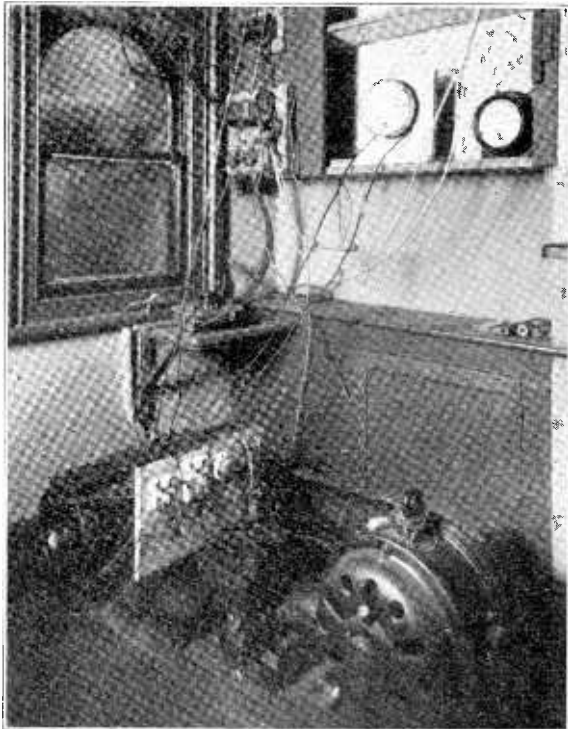
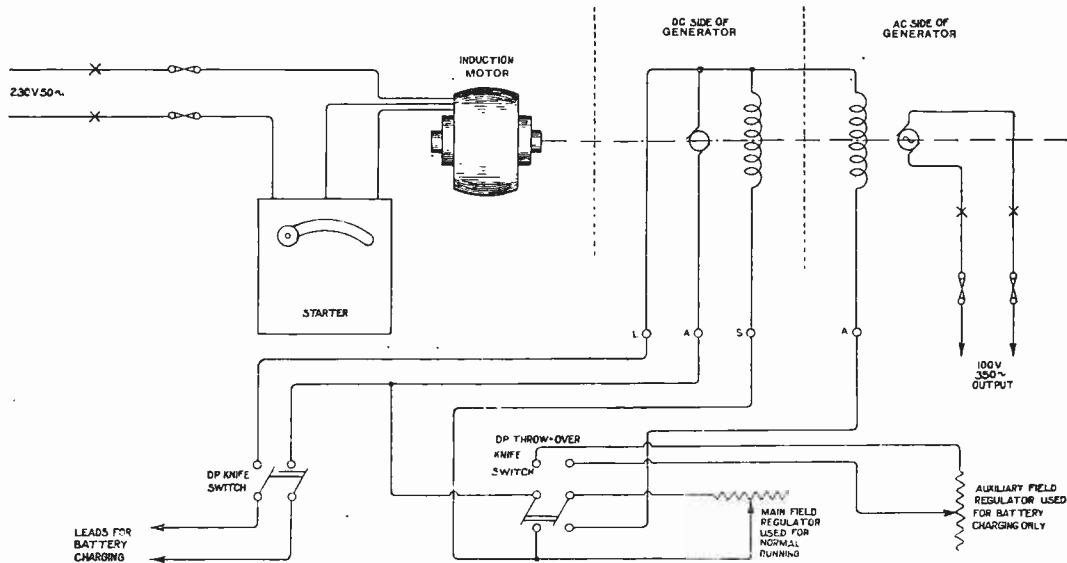

Fig. 2. The generator unit with driving motor.
Fig. 3. Connections of generator unit.
Fig. 3. The diagram shows the connections of a receiver which has one H.F. amplifying valve, crystal rectifier, and one note magnifier. The anode circuit of the first valve contains a coil which is tuned with a condenser to the wavelength of the signal. Good amplification is obtainable with a receiver wired to this diagram, and its simplicity should appeal to those who have but recently taken an interest in reception. The circuit is ideal for the reception of broadcast transmissions and its range would be of the order of 80 miles.
(1) and (2) A suitable diagram is given in Fig. 3. Suitable values are indicated. (3) You should certainly hear broadcast transmissions and any other stations which are transmitting with sufficient power.
Having arranged the aerial and the earth connections, the next consideration was the source of the power supply. The Power Company connected us on a pair of leads to their "station auxiliaries" switchboard at about 230 volts, 50 cycles alternating, and we used a 3 H.P. induction motor run off that supply to drive the generator used for feeding the set. The generator was primarily a rotary converter, one of Newton's make, designed for a ship's wireless set to carry a rotary spark gap at one end of its shaft, and arranged for 100 volts D.C. input and 100 volts A.C. output at 350 cycles. We fixed a pulley in place of the rotary spark and drove the machine by a belt from the 3 H.P. induction motor. The output of the generator was used to feed the step-up transformers. By driving the machine in this way we obtained also 100 volts D.C. from the dynamo and used it to excite the alternator field as well as for battery charging. We fitted up a change-over switch to enable us to throw the machine over quickly from the running to the charging position because between transmissions we needed to charge up our batteries very quickly, and therefore a quick throwover was very necessary. Fig. 2 shows the arrangement of the generator with the driving motor, and Fig. 3 the connections. When the D.P. throw-over switch is in the lower position we had the normal running conditions in which the D.C. dynamo field is connected directly across the D.C. armature making a shunt wound dynamo to give 100 volts D.C., and the field regulator is joined into the circuit of the alternator field. That gave us the normal running position and we obtained our 350 cycle supply from the slip rings of the machine, getting voltage control by means of the main field regulator.
The transmitter is loosely coupled with the aerial circuit which has a single turn of wire included in it as well as the ammeter. The arrangement given in Fig. 1, modified to Fig. 3, may be used. The transmitter is adjusted to the frequency of the aerial circuit as indicated by the maximum aerial current. The coupling between the single turn and  $L_1$  is made as loose as possible, consistent with reliable readings. The aerial circuit is then removed and the wavelength of the oscillations generated measured with a wavemeter.